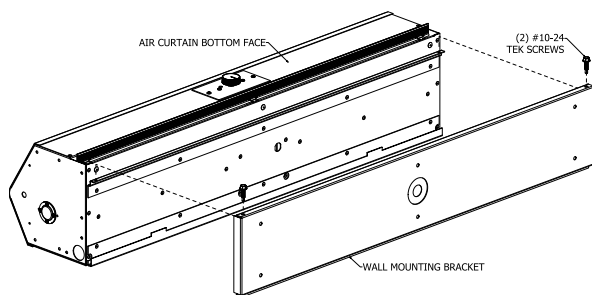
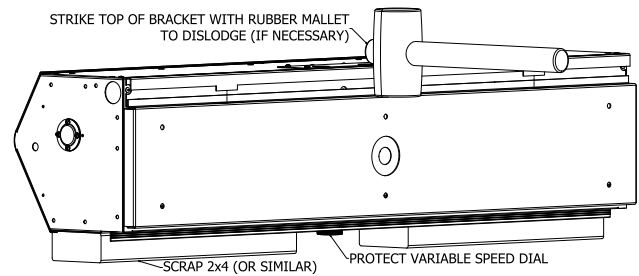

FIG. 1
FIG. 2
2. Lay unit on its top face (with directional vanes pointing up) and remove the two (2) Tek screws from the wall mounting plate, just behind the discharge nozzle, and remove the mounting plate by sliding up (FIG. 1). The mounting plate may be stuck in place: if necessary, lay the unit onto its bottom face (taking care not to damage the variable speed dial) and strike the top of the plate with a rubber mallet to dislodge it (FIG. 2).